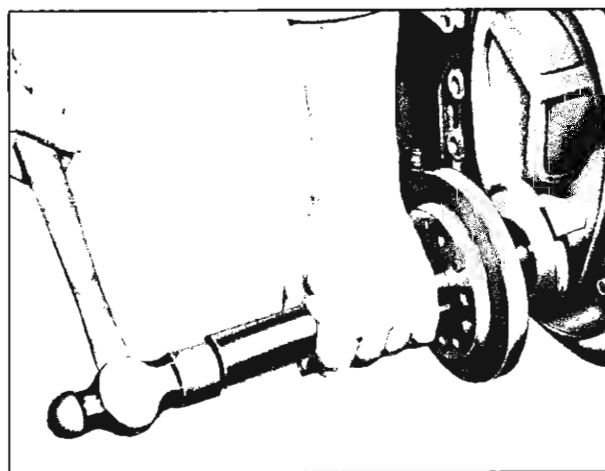

Fig. 76—Installing Harmonic Balancer
3. Using Tool J-5590, drive balancer on crankshaft until the hub bottoms on the crankshaft timing sprocket (fig. 76).